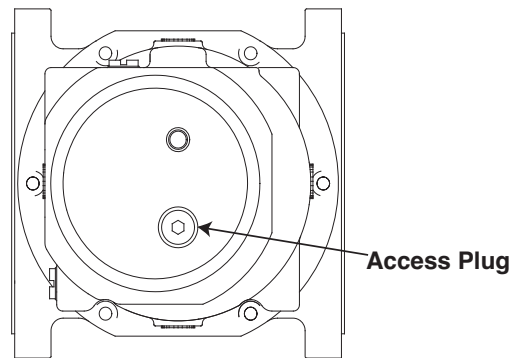

Figure 13 - Remove the access plug to check impeller rotation.
- After the meter has been installed, remove the hex head plug located in the timing gear end cover (as shown in *Figure 13*) by using a Hex wrench. Insert an Hex wrench into the gear clamp and slowly turn the impellers clockwise, checking for free rotation. If binding is present, do not attempt to disengage the impellers. Remove the meter from the set and clear all obstructions or piping strain prior to reinstalling the meter. Reinstall the plug and torque to 6-7 ft-lbs after verifying free impeller rotation.